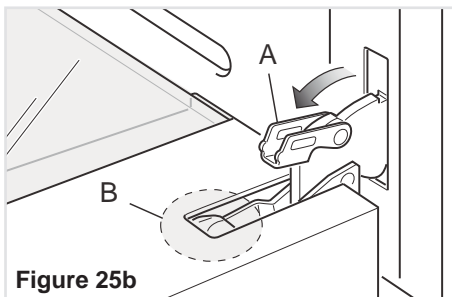

Figure 25b
- Open the lever “A” completely on the left and right hinges (fig. 25b).
- Gently close the door until left and right hinge levers “A” are hooked to part “B” of the door (figs. 25b, 25c).
- Open the lever "A" completely on the left and right hinges (fig. 25b).
- Gently close the door until left and right hinge levers "A" are hooked to part "B" of the door (figs. 25b, 25c).